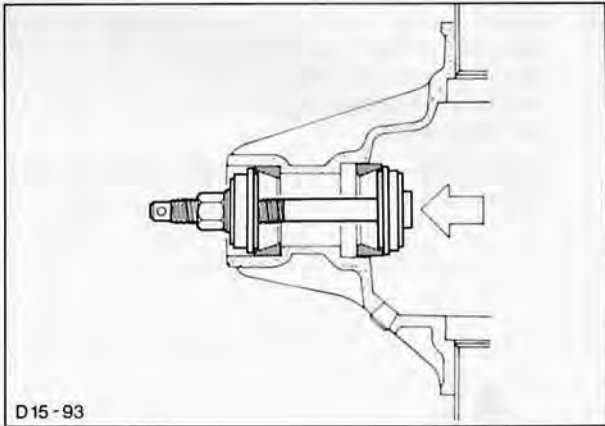

Fig. 67. Install outer bearing cup
14. Remove and install inner cup of drive pinion taper roller bearing with Special Tool, Fig. 67.